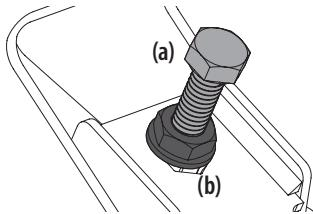

Figure 38
- Locate the adjustment bolts (a) on the left and right side of the deck. See Figure 38.
- Loosen, but do not remove, the jam nuts (b) on the adjustment bolt. Adjust either the right or left adjustment bolt up or down as necessary until the side-to-side heights are equal. See Figure 38.
- When proper adjustment is achieved, re-tighten the jam nuts (b). Tighten to 57 ft-lbs (77 N-m). See Figure 38.